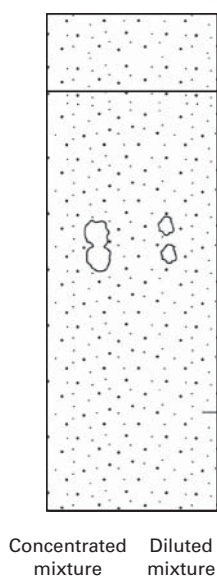

FIGURE 27.11 Effect of concentration on a separation.
1. Make the spots too concentrated. Here spots smear out, and you don't see any separation. Dilute the spotting solution, or don't put so much on (Fig. 27.11).